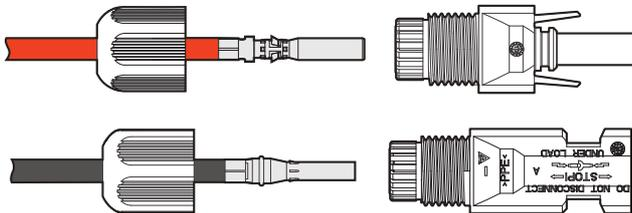

Figure3-19 Fasten the metal terminal
Step 3 Insert the crimped positive wire and negative wire into corresponding insulation crust respectively. If there has a click sound, it means that the wire have been inserted properly, as shown in Figure3-19.